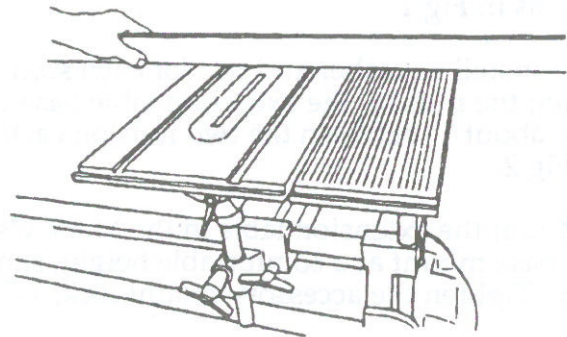

Fig.11
11. Hold the straightedge on the outfeed top surface of both the worktable and the extension table. Fig.11 shows Model 500.